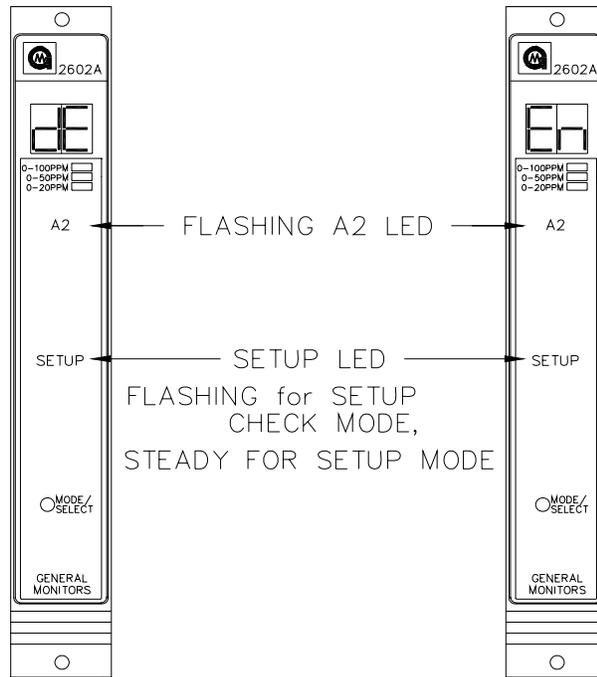

**Figure 22: Entering Inhibit Mode**
**This option applies to the Setup Mode only:** If the password option is disabled, or after the correct password has been entered, the display will indicate "In" for five seconds (Figure 22). Pressing the **Mode/Select** switch while In is displayed will cause the unit to enter the **Inhibit** mode by inhibiting the alarm outputs. After the unit has entered the **Inhibit** mode, the Model 2602A will return to normal operation. If it is desired to enter the **Setup** Mode, do not press the **Mode/Select** switch for the five seconds that "In" is displayed.